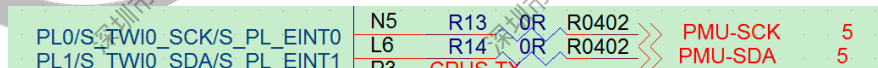

Figure 2-19 TWI Communication Bus
- The PL0/PL1 is the TWI communication port between SoC and PMIC and has 4.7 kΩ internal pull-up resistors, so it is not recommended to share the PL0/PL1 port with other I2C devices. As shown in Figure 2-19.